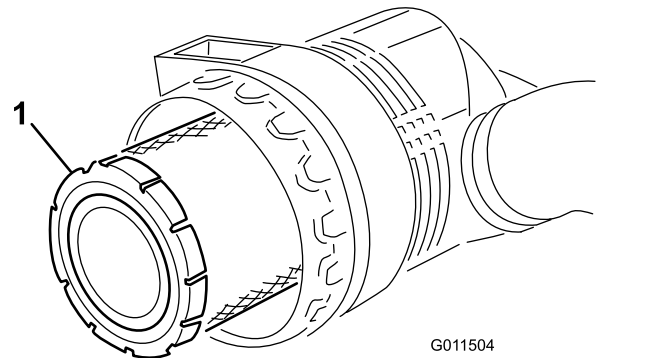

Figure 50
3. Remove and replace the primary filter (Figure 50).